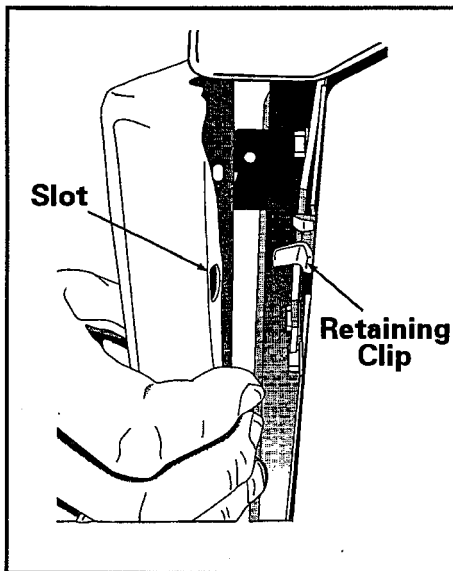

Figure 5-3
- The front panel is held to the cabinet by clips secured to the cabinet front flange. Small slots in the front panel engage the clips and hold the front panel in place, (See *Figure 5-3*). To remove the front panel, grasp the sides of the front panel 3/4 of the way down and pull the front panel away from the dryer.